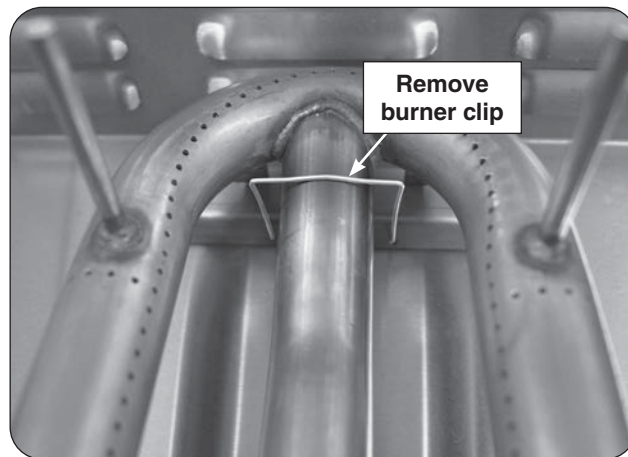

Fig. 32-2 Cooking grids removal
3. Carefully remove the cooking grids (see Fig. 32-2).